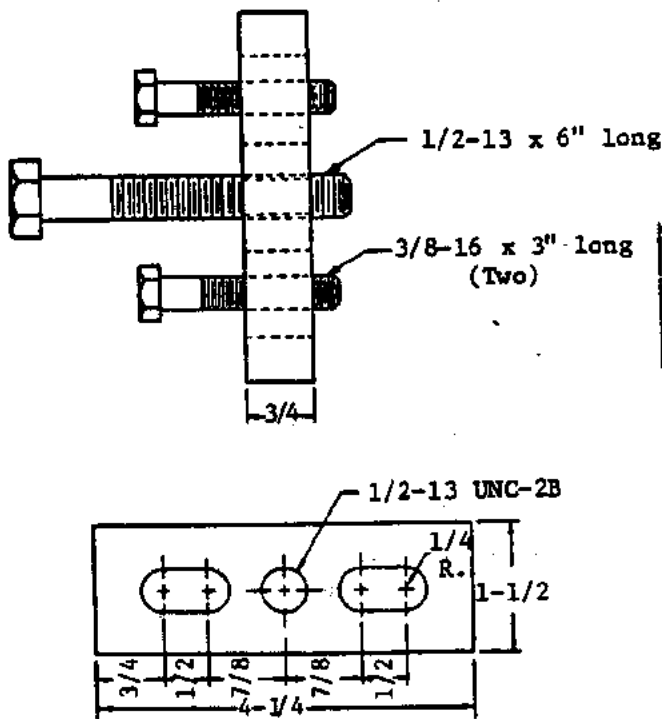
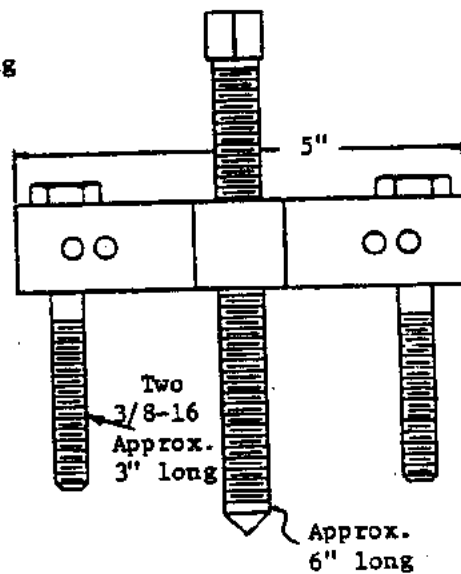

Fig. 2. Fabricated Wheel Puller Assembly
Fig. 3. Purchased Wheel Puller
- 1 - Wheel puller (see Fig. 2 and 3).
Figure 2 shows a puller that can be fabricated to fit the 19D Series 11, 21, and 31 size impellers. Figure 3 shows a puller that can be purchased from Snap-on-Tools, No. CJ-83B.